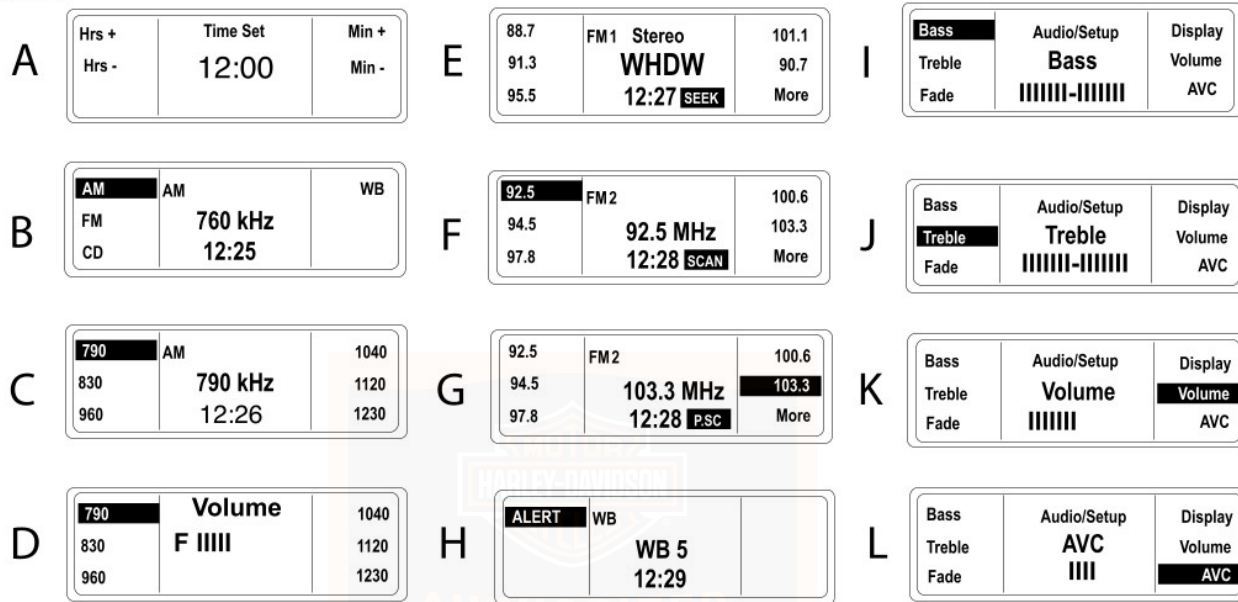

Figure 23. Radio Receiver LCD Display Examples: FLHTCUSE
See A in Figure 23. To increase the hours in the display press the Hrs+ soft key. To decrease hours press the Hrs- soft key. When the hour is correct, release the soft key.
See B in Figure 23. The LCD highlights the selected band.
See E in Figure 23. Normally, the Advanced Audio System plays FM signals in stereo. The LCD will indicate **STEREO**.
See H in Figure 23. Broadcast by the National Oceanic and Atmospheric Administration (NOAA) National Weather Band (WB) frequencies are available in North America only.
See D in Figure 23. At any time the receiver is playing, the volume can be adjusted by pressing the **AUDIO** switch up (+) to increase volume or down (-) to decrease volume.
See E in Figure 23. In SEEK, the radio tunes in to the next strong station.
See F in Figure 23. Press and hold the **MODE SEL** switch **UP** or **DN** approximately 5 seconds to scan the band for strong station signals. Each strong station remains tuned in for 8 seconds before the radio scans to the next station. The receiver will continue to scan until cancelled.
See C in Figure 23. AM can store 6 preset frequencies.
*See E and F in Figure 23. Separate FM1 and FM2 bands allow the rider to store 2 sets of 5 preset FM frequencies (10 total). Use the **More** soft key to toggle between FM1 and FM2.*
See G in Figure 23. In preset SCAN, the radio continuously tunes from one preset station to the next until the preset SCAN is cancelled. A P.SC icon will display while preset SCAN is active.
See D in Figure 23. Volume is adjusted with the **AUDIO** switch on the left hand grip. Using left thumb, press the **AUDIO** switch up (+) to raise the volume or down (-) to lower the volume. The LCD displays the word Volume and a bar graph that changes length with the volume.
See K in Figure 23. Volume can also be adjusted in Audio/Setup.
BASS: See I in Figure 23. Press **AUDIO** to display Bass Audio/Setup. Using the left thumb, press the **AUDIO** switch up (+) to increase the bass range or down (-) to lower the bass range. The LCD displays the word Bass and a dashed line that changes length with the setting. The short center dash indicates a middle setting.
TREBLE: See J in Figure 23. From Bass Audio/Setup, press and release **AUDIO** to sequence to Treble. Using the left thumb, press the **AUDIO** switch up (+) to increase the treble range or down (-) to lower the treble range.
See J in Figure 23. The LCD displays the word Treble and a bar graph that changes length with the setting. The short center dash indicates a middle setting.
See L in Figure 23. Automatic Volume Control (AVC) automatically adjusts volume level to compensate for ambient noise associated with motorcycle speed.